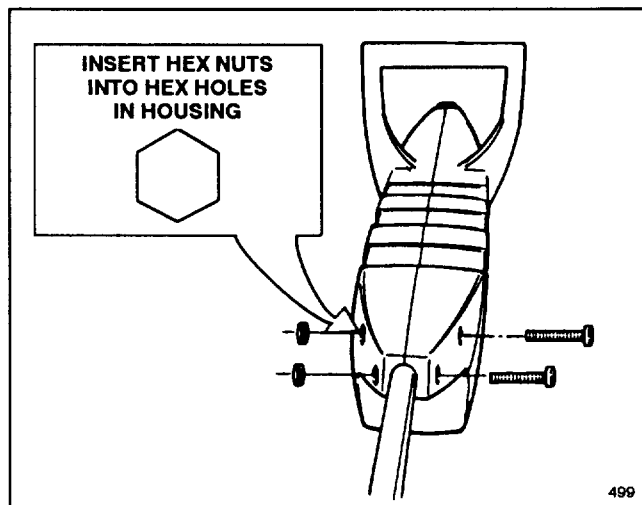

Figure 6
7. Secure battery housing to tube using the (2) screws and hex nuts supplied (Fig. 6).